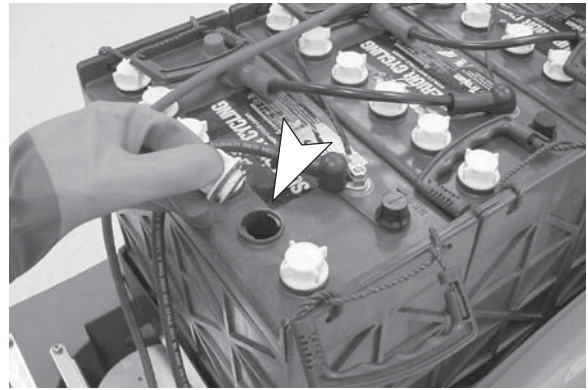

FIG. 21
4. Before charging the batteries, check the electrolyte level in each battery cell (Figure 21).